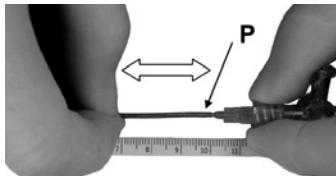

Fig. 22: Position 1A
- In case that the device cannot be released by pulling the torquer (T), it is suggested to elongate the pusher 2 cm near the "Y" connector. This will loosen the retaining wires and the device (D) will be released. Fig. 22 – 25.